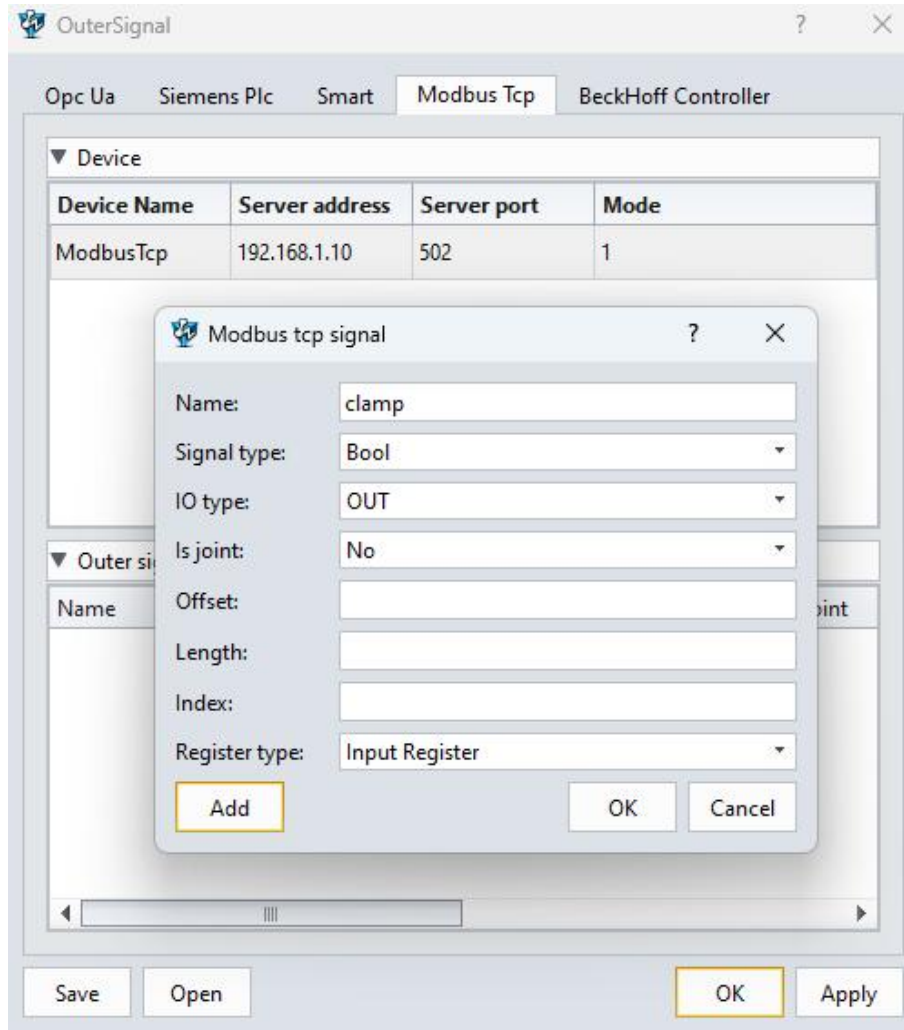

Figure 12-16: Pick and place outer signals
- Add communication for grabbing and releasing: (Figure 12-16)